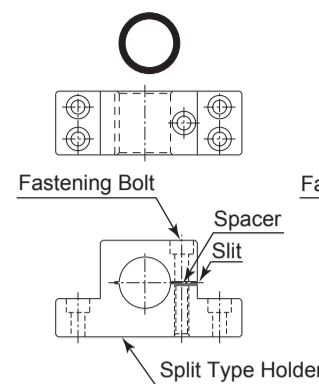
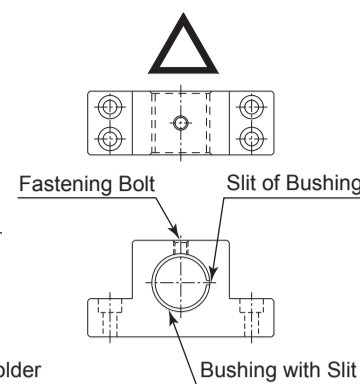

Fig. 8
Fig. 9
- When installing a Spindle to the holder, recommended installation method is shown Fig 8. Refer to "③ How to fabricate the Split Type Holder". If this is not possible, install as shown in Fig. 9.